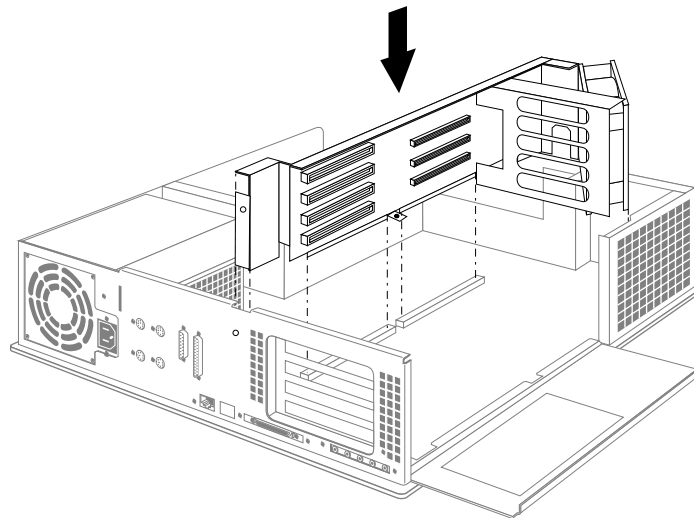

Figure 8-42 Installing the EISA Board Backplane in the Indigo² Chassis
12. Replace the EISA board backplane, as shown in Figure 8-42.